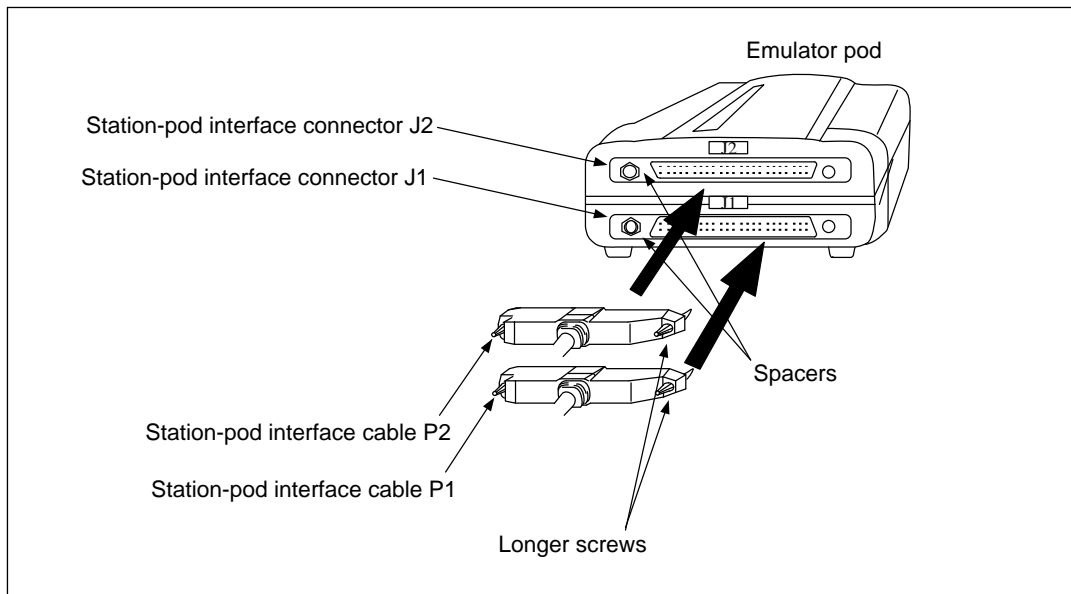

Figure 3-3 Connecting Station-Pod Interface Cables to Emulator Pod
- (4) Connect station-pod interface cables P1 and P2 to station-pod interface connectors J1 and J2 on the emulator pod, respectively. Insert the longer screw of each cable to the connector screw hole without a spacer, and the shorter screw to the hole with a spacer. Tighten the longer screw first until the shorter screw reaches the spacer, then alternately tighten the longer and shorter screws. Figure 3-3 shows how to connect the station-pod interface cables to the emulator pod.